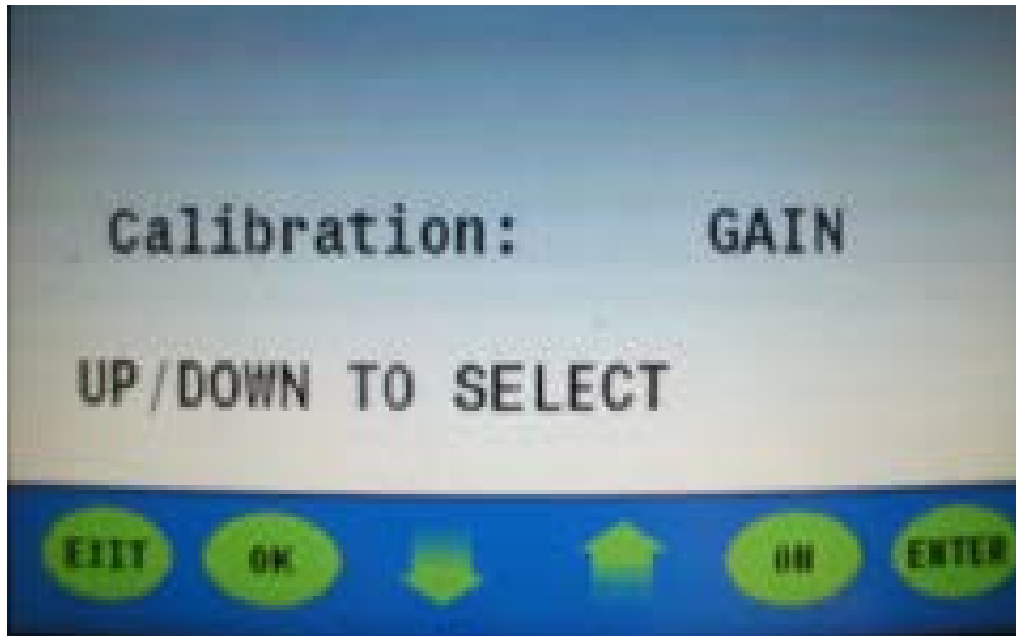

Figure 8
9. Press the **up** or **down arrow**; select "Gain." Next, press the enter button (**figure 8**).